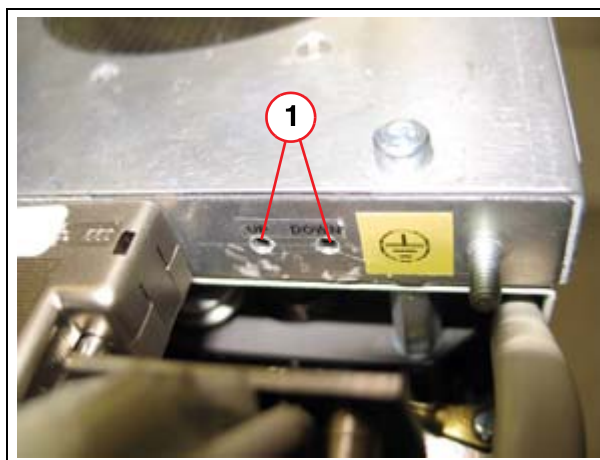

Fig. 6: Wellhöfer_DAP
9. Adjust the chamber gain by pushing the up or down button for at least 200 ms for each push at the chamber (1/Fig. 6 / p. 23).